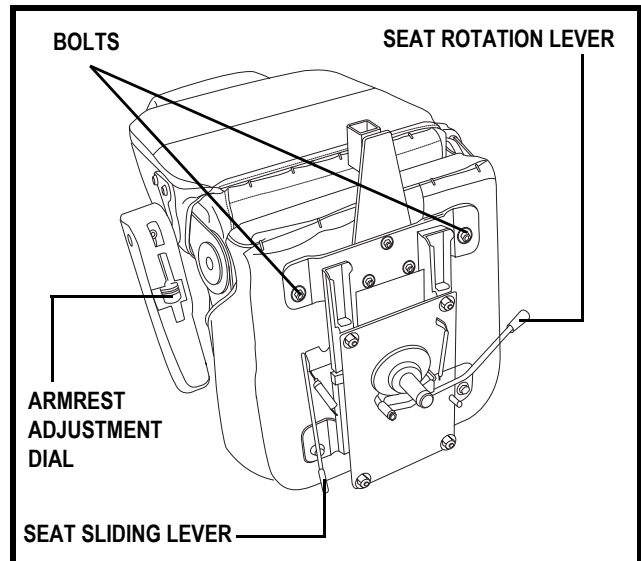

Figure 19. Armrest Width Adjustment
There is an armrest adjustment dial on the underside of each armrest. See **figure 19**. Turn the armrest adjustment dial to the left to lower the armrest angle or to the right to raise the armrest angle..
1. Pull upward on the seat rotation lever to disengage the seat. See **figure 19**.
1. Move the seat sliding lever located at the lower left side of the seat outward. See **figure 19**.
2. Place the seat upside down so that you can see the bottom of the seat base. See figure 19.